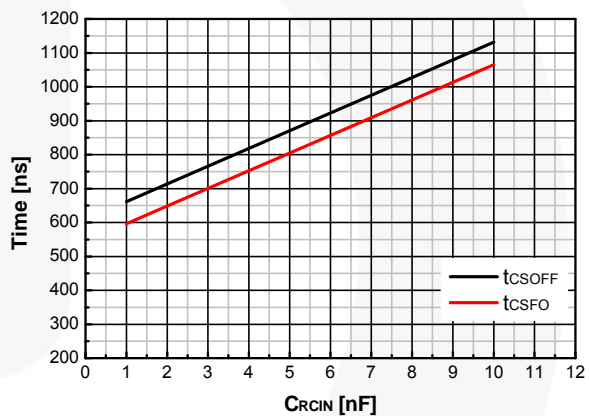

**Figure 42. RCIN and Fault-Clear Waveform Definition**
Figure 42 shows the waveform definitions of RCIN, FO, and the low-side driver; which uses a soft turn-off method when an under-voltage condition of the low-side gate driver supply voltage ( $V_{DD}$ ) or the current-sense pin (CS) recognizes a fault. If a fault condition occurs, the FO Pin is internally pulled to COM and all outputs (HO1,2,3 and LO1,2,3) of the gate driver are turned off. Low-side outputs decline linearly by the internal sink current source ( $I_{SOFT}=40mA$ ) for soft turn-off, as shown in Figure 42.